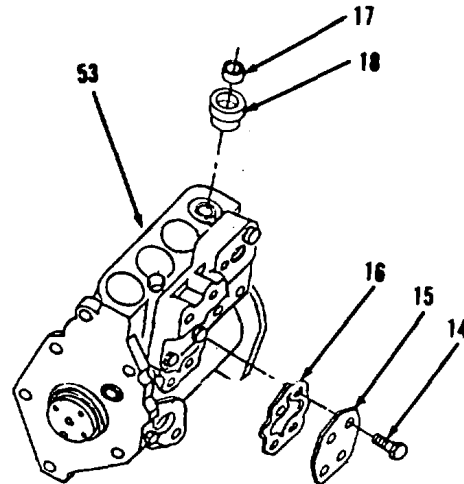

Figure 3-97.
33. Install four bushings (18, Figure 3-97) and tighten to 120 ft-lb torque.
34. Install four new felt washers (17).
35. Install new gasket (16), cover (15) and four bolts (14).